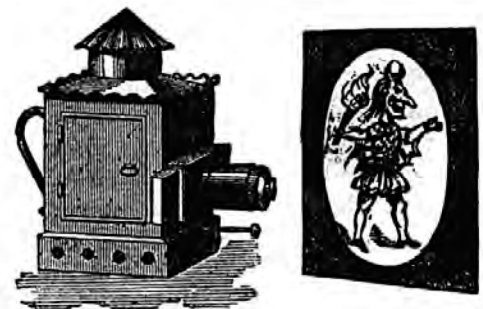

Fig. 2.
Ray Gilbert drew my attention to an extract from Samuel Highley's publication *The Popular Recreator* (c.1873). This book contains a series of articles on the magic lantern in which Highley recounts 'the days when I was young' and illustrates a lantern he was given and promptly took to pieces to see how it worked (Fig. 2).
2. Highley's 'small lantern bought at a toy-shop' – Fig. 2 from 'The Magic Lantern', in *The Popular Recreator*, Vol. 1, 38–41